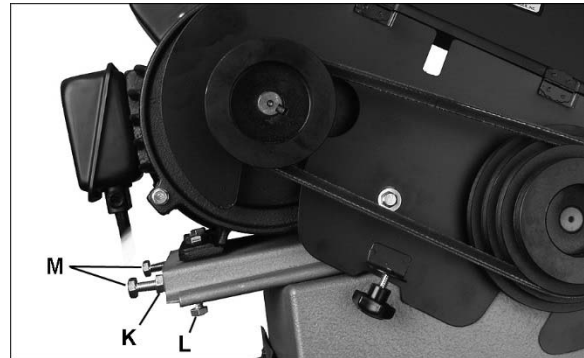
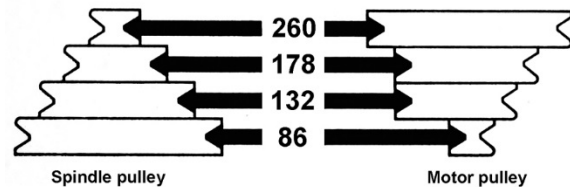

Figure 8-5: blade speed adjustment
Figure 8-6
3. Open pulley cover, and loosen hex nuts (K, Figure 8-5). Turn screw (L) out to relieve pressure on motor mount plate.
4. Turn screws (M) clockwise to push motor mount plate, relieving tension on belt.
5. Move belt to desired pulley combination. Refer to chart inside pulley cover (reproduced in Figure 8-6).